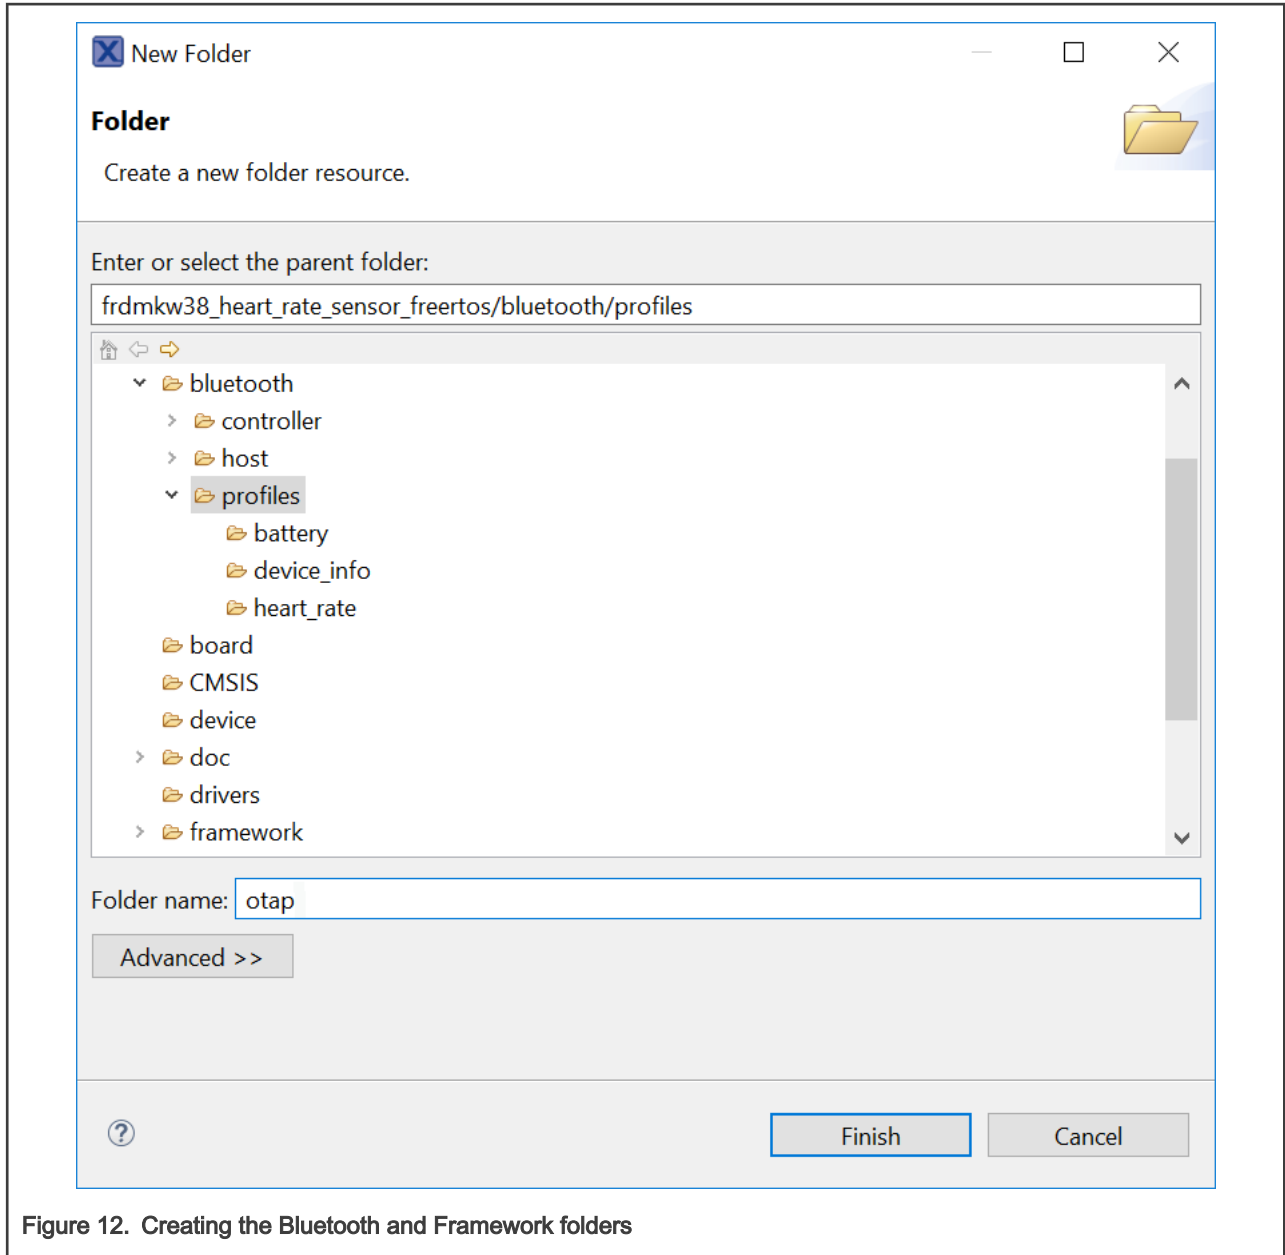

Figure 12. Creating the Bluetooth and Framework folders
1. Expand the **bluetooth** and **framework** folders in your workspace. Select the folder needed for updates and click the right mouse button. Select **New** -> **Folder**. The **Folder** window appears to provide the same name as the missing folder in the source directory, as shown in Figure 12.